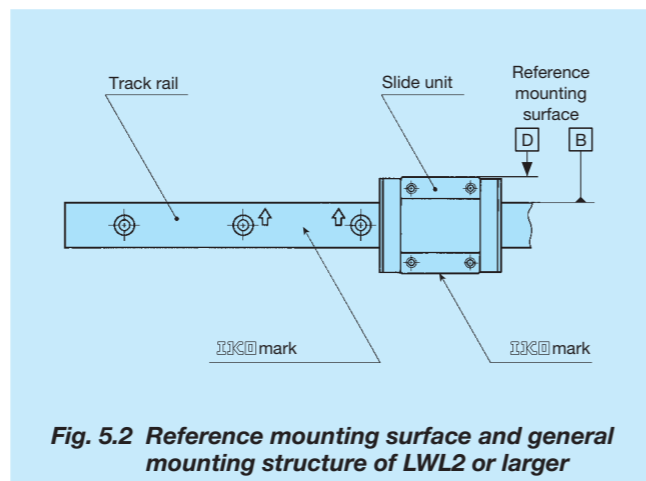

Fig. 5.2 Reference mounting surface and general mounting structure of LWL2 or larger
The reference mounting surfaces B and D (D₁ and D₂) and the mounting surfaces A and C of ML(F) and LWL(F) series are accurately finished by grinding. Stable and high accuracy linear motion can be obtained by finishing the mating mounting surfaces of machines or equipment with high accuracy and correctly mounting the guide on these surfaces. Reference mounting surfaces of slide unit and track rail are shown in Fig. 5.2.